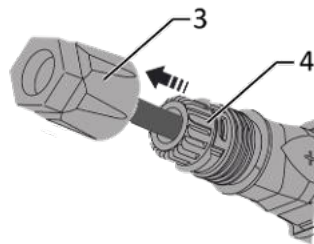

Fig. 23. Slide insert into sleeve
2. Close the spring so that the spring latches and slide insert into sleeve (see Fig. 23).